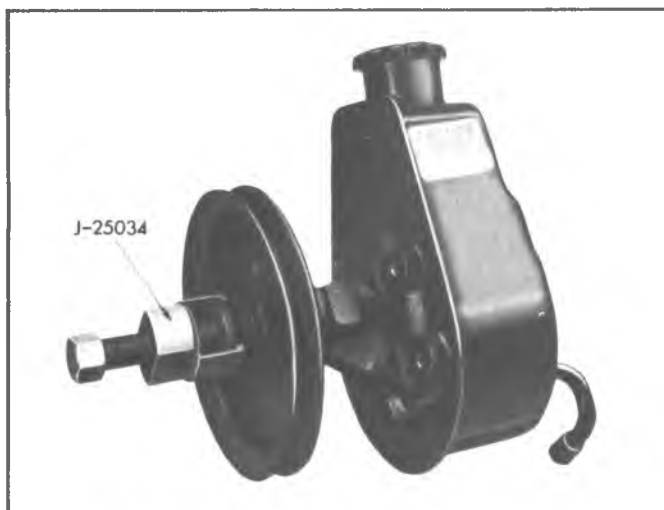

Fig. 1—Power Steering Pump Pulley—Removal
1. Remove pump pulley by using tool J-25034 as shown in Figure 1.